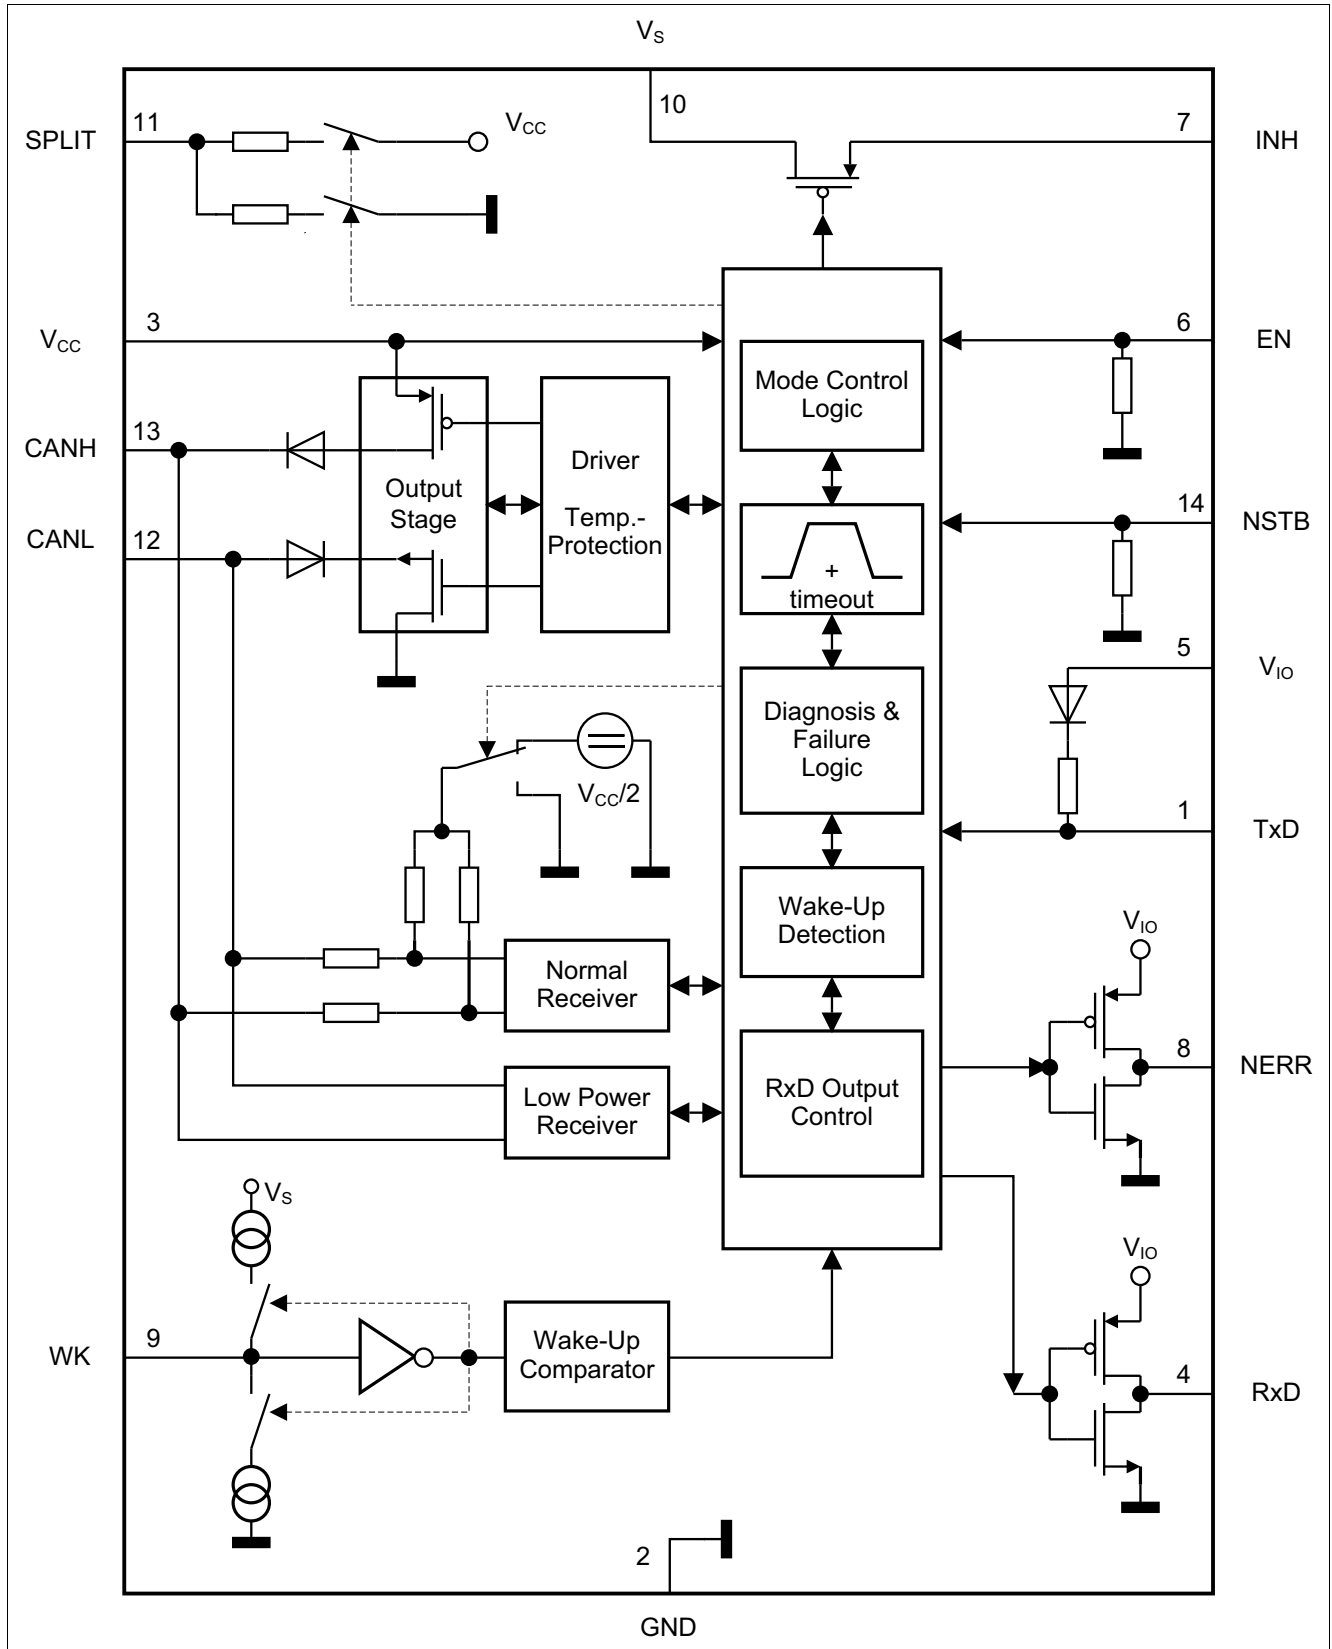
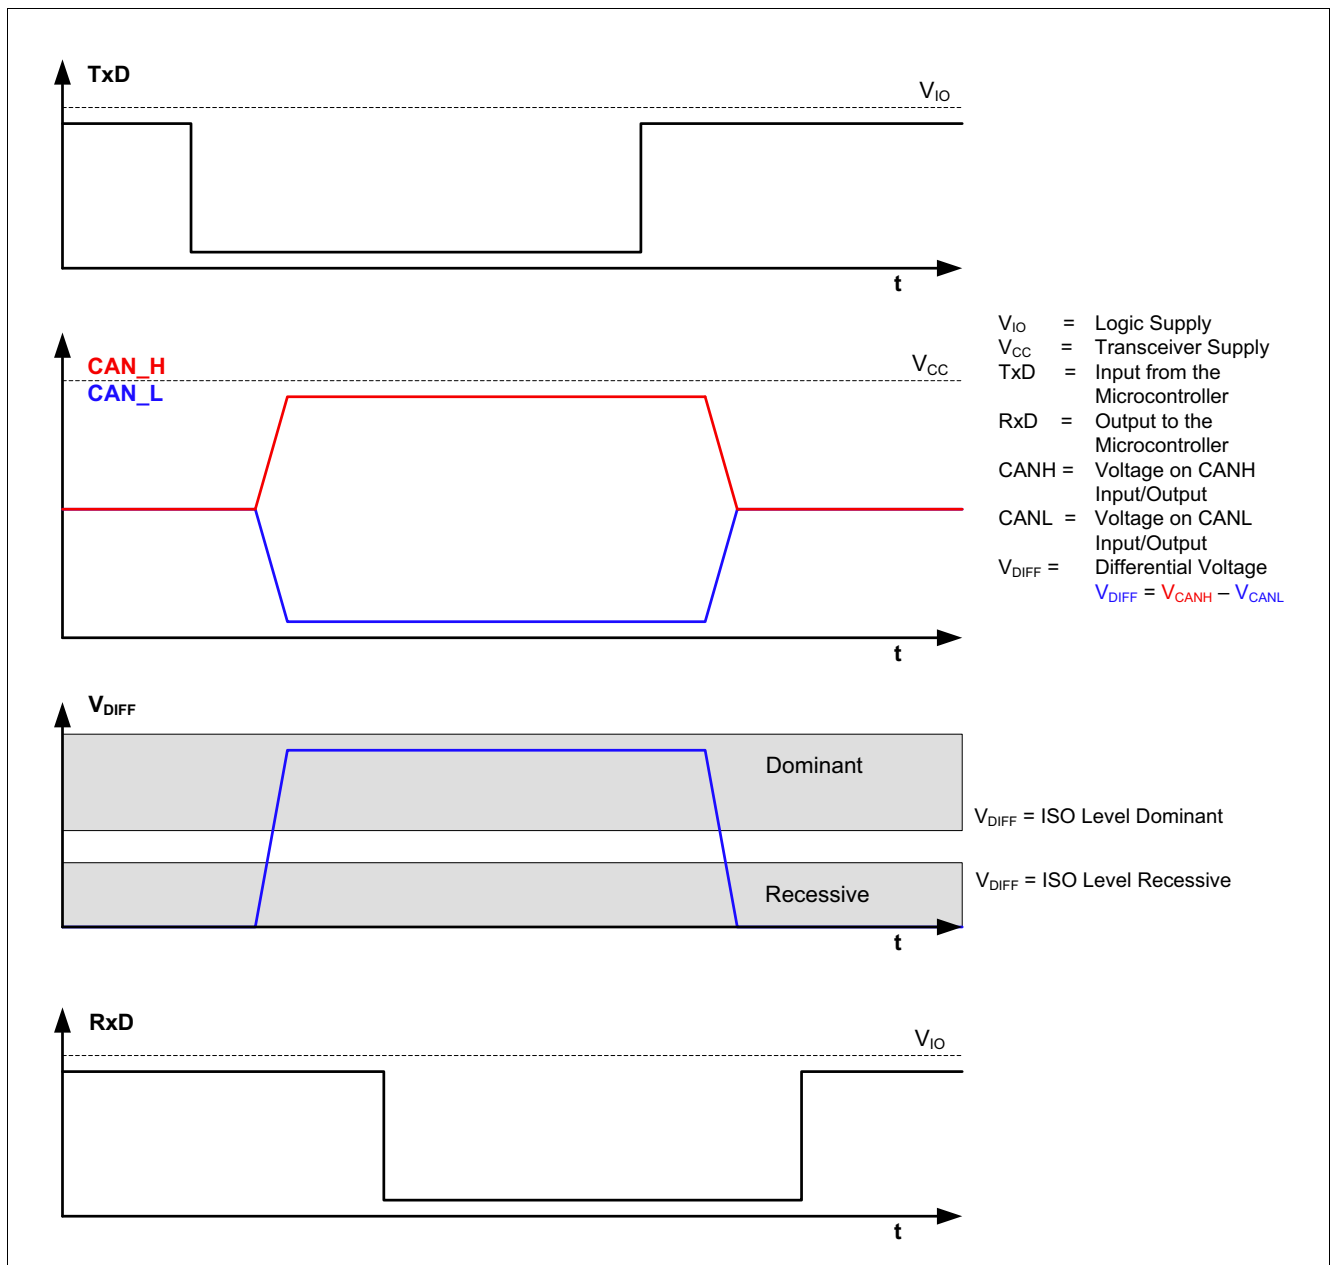

Figure 1 Block Diagram
Figure 3 High Speed CAN Bus Signals and Logic Signals
The TLE6251-2G is a High Speed CAN transceiver, operating as an interface between the CAN controller and the physical bus medium. A **H**igh **S**peed CAN network (abbreviated HS CAN) is a two wire differential network which allows data transmission rates up to 1 MBaud. Characteristic for a HS CAN network are the two CAN bus states “Dominant” and “Recessive” (see Figure 3).
The input TxD and the output RxD are connected to the microcontroller of the ECU. As shown in Figure 1, the HS CAN transceiver TLE6251-2G has a receive unit and a output stage, allowing the transceiver to send data to the bus medium and monitor the data from the bus medium at the same time. The HS CAN TLE6251-2G converts the serial data stream available on the transmit data input TxD into a differential output signal on CAN bus. The differential output signal is provided by the pins CANH and CANL. The receiver stage of the TLE6251-2G monitors the data on the CAN bus and converts them to a serial data stream on the RxD pin. A logical “Low” signal on the TxD pin creates a “Dominant” signal on the CAN bus, followed by a logical “Low” signal on the RxD pin (see Figure 3). The feature, broadcasting data to the CAN bus and listening to the data traffic on the CAN bus simultaneous is essential to support the bit to bit arbitration on CAN networks.
- Through the internal resistors R_1 (see Figure 1), the pins CANH and CANL are connected to GND.